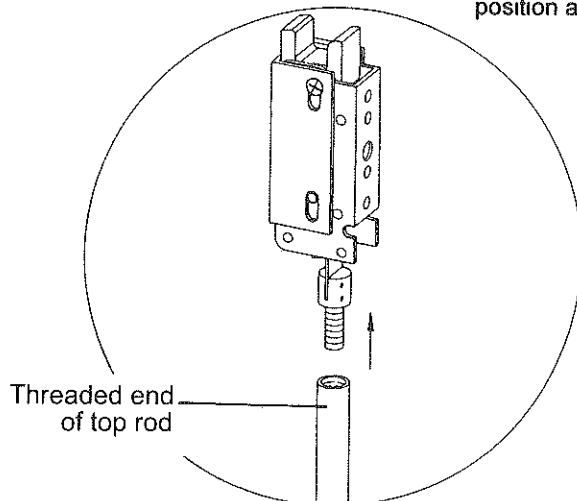

Figure 9
2. Screw the threaded end of top rod into top latch assembly completely. (See Figure 9.)
Note : If the hole of top rod connector does not match in alignment with the mounting hole of bit glide plate, adjust the height of top rod as shown in Figure 9 or re-cut the length.